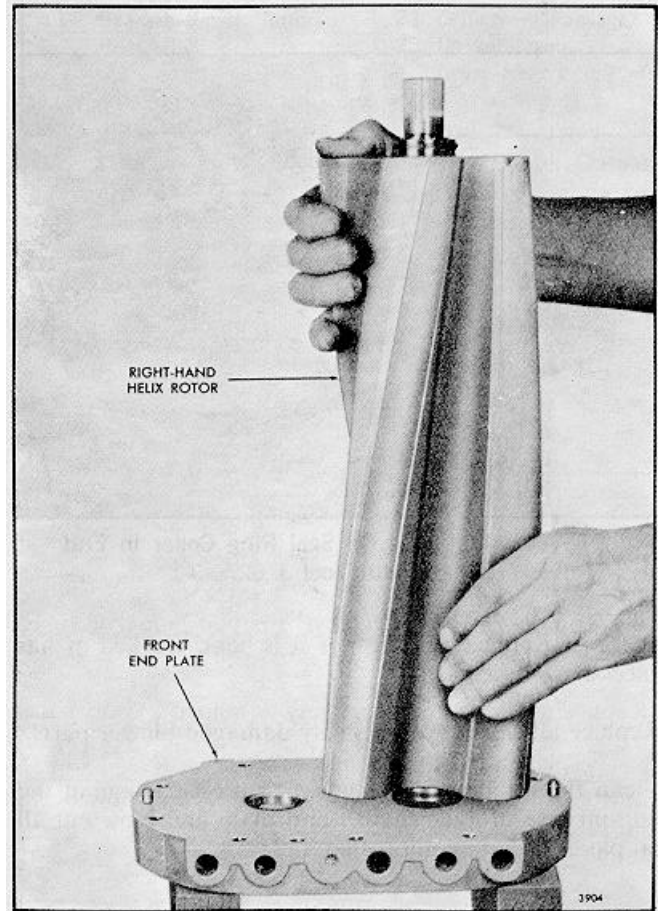

FIG. 13 - Installing Blower Rotor in Front End Plate
- c. Support the front end plate on two wood blocks approximately 4" high, with the inner face of the end plate facing up and the TOP side of the plate facing the serviceman's right (Fig. 13).
- f. With the omitted serration in the splines of the shaft facing toward the top side of the end plate, start the end of the rotor shaft into the right-hand shaft opening in the end plate so that the gap portion of the seal ring is started into the ring collar (Fig. 13). Continue to lower the rotor and very carefully apply pressure to the seal ring approximately 180° from the gap while gently working the seal ring into the collar until the rotor contacts the end plate.